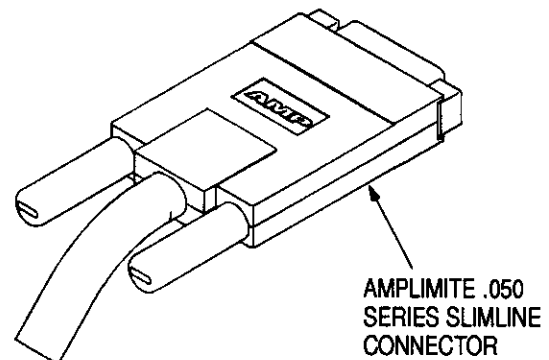

Figure 8
3. Pull down on the tool handle (until the CERTI-CRIMP ratchet releases) to seat the upper plastic cover onto the backshell assembly. See Figure 8 for a properly assembled AMPLIMITE .050 Series Slimline Connector.